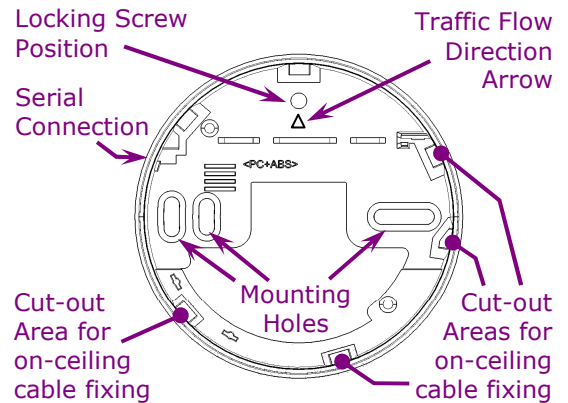
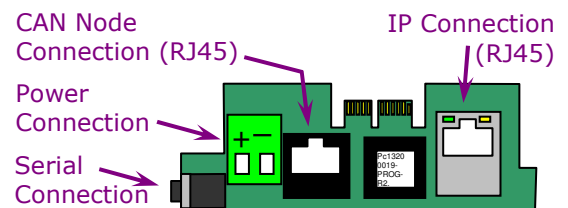

Figure 1 – Counter Base
Figure 2 – IP Interface Board
1.1 Detach the counter head from its base by twisting anticlockwise slightly then pulling apart to expose the counter base (Figure 1) and interface board (Figure 2).
1.2 Select a suitable location for mounting the counter base. Refer to the 'Applications Notes' document, IPU40184, for details on suitable locations. Ensure that the 'Traffic Flow Direction Arrows' (Figure 1) of all units are pointing in the same direction in the case of wide opening installations (parallel to each other), preferably in the direction of traffic flow. Ensure that the mounting position will not exceed the 100m (328ft) maximum cable length for the IP connection.
1.3 A 3-5cm hole in the ceiling should be provided for cable access. If mounting on solid ceilings, a number of alternative cut-out areas are provided in the base perimeter to allow for wiring access. The slot in the base marked for serial connection (see Figure 1) should not be used for this. Install the base using the mounting holes provided; these holes allow for a limited amount of movement of the base – once aligned correctly, secure the base using the locking screw position.
1.4 The IP base interface board allows for IP and serial connection for configuration purposes (Figure 2). If previously removed from the base, the board must be re-inserted 'serial connector' first, and clipped in place. Ensure the interface board is properly seated inside the base.